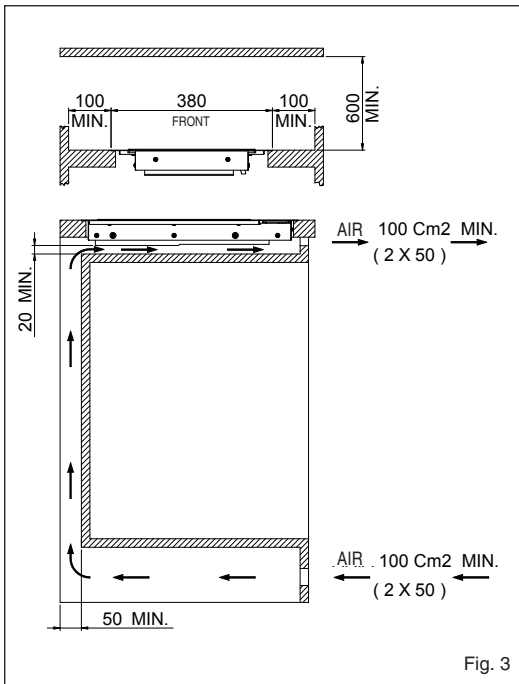

Fig. 3
- allow air passages as shown in the figure (Fig. 3).